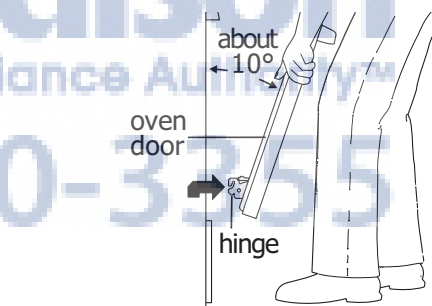
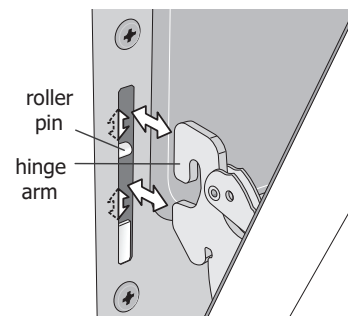

Figure 21: Holding door for removal
Figure 22: Replacement and location of hinge arm and roller pin
3. Firmly grasp both sides of oven door along the door sides. Do not use the oven door handle (See Figure 21).
4. Close the door to approximately 10 degrees from the door frame (See Figure 21).
5. Lift the oven door hinge arms over the roller pins located on each side of the oven frame (See Figure 21).
1. Firmly grasp both sides of oven door along the door sides. Do not use the oven door handle (See Figure 21).
2. Holding the oven door at the same angle as the removal position, seat the hook of the hinge arm over the roller pins located on each side of the oven door frame (See Figure 21 and Figure 22). The hook of the hinge arms must be fully seated onto the roller pins.